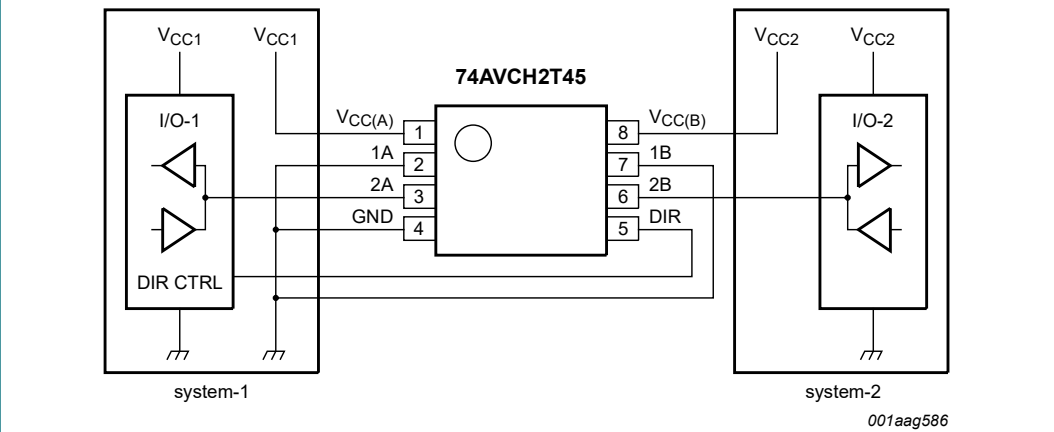

Fig. 7. Bidirectional logic level-shifting application
Fig. 7 shows the 74AVCH2T45 being used in a bidirectional logic level-shifting application. Since the device does not have an output enable (OE) pin, the system designer should take precautions to avoid bus contention between system-1 and system-2 when changing directions.